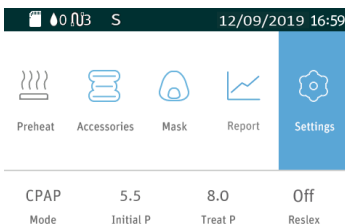

Fig. 16-2
**Note:** The above interface only applicable to the device does not activate the SmartC or SmartA. If the SmartC or SmartA is enabled, and the symbol **S** will appear in the status bar at the top of the screen, as shown in Fig. 16-2.
**Note:** As the humidity levels is off, the Preheat Function Icon  will become gray, as shown in Fig. 16-2.